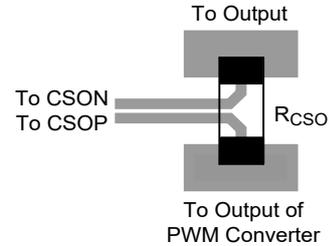

Figure 5. Kelvin Connections for the  $R_{CSO}$
- ▶ Connect the capacitor (between the CSOP and CSON pins) close to these pins. The paths of CSOP and CSON must be directly connected to the terminals of current-sense resistor ( $R_{CSO}$ ) using Kelvin connections as shown in the layout shown in Figure 5.